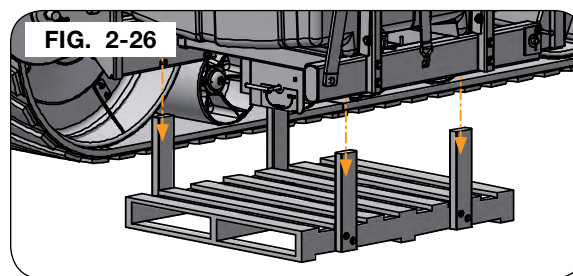

FIG. 2-26
11. Cut the banding securing the shipping pallet to the tank assembly, lower from the tank assembly and dispose of. (FIG. 2-26)